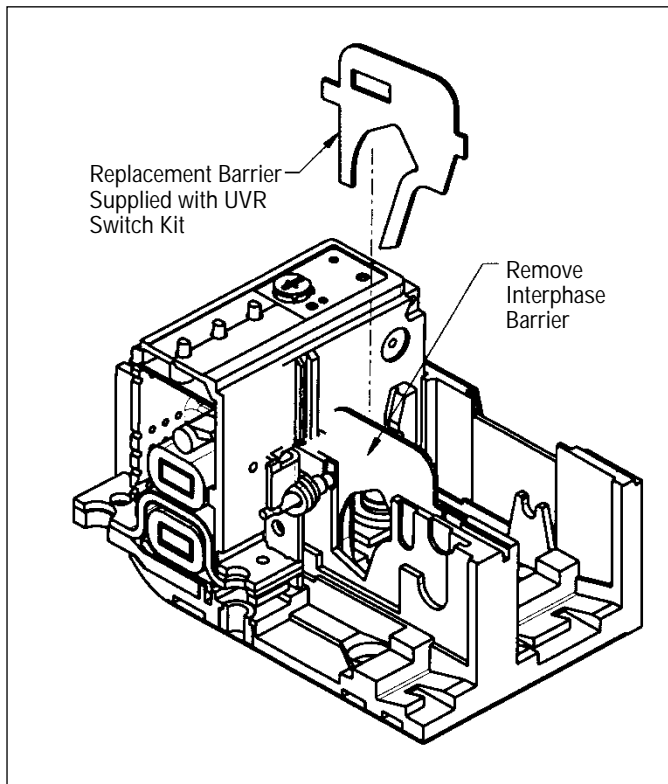

Figure 2-3 Interphase Barrier Replacement
- 2-6. Remove interphase barrier between accessory mounting cavity and operating mechanism (see Figure 2-3).
- 2-7. Install replacement interphase barrier (supplied with kit) in base (see Figure 2-3).